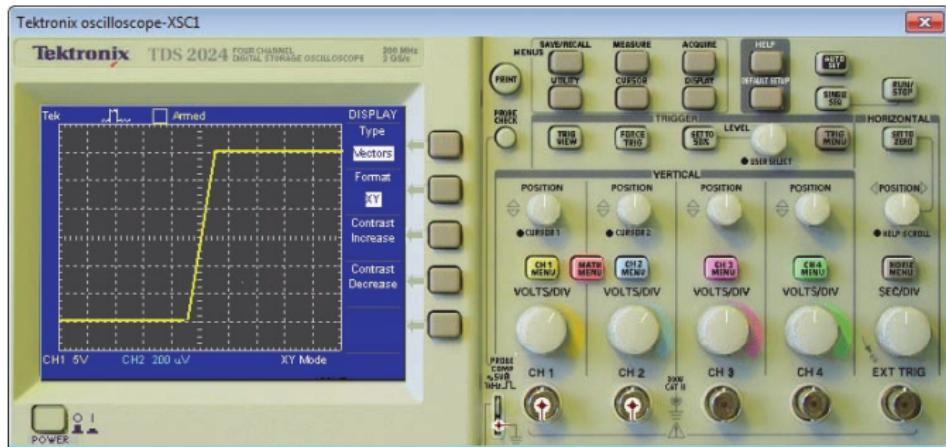

Figure 9: Narrow linear region of typical comparator
- When the sensitivity of the 2 channel is changed to 200 $\mu\text{V}/\text{Div}$, we can see that the transition is not vertical, as shown in Fig. 9.